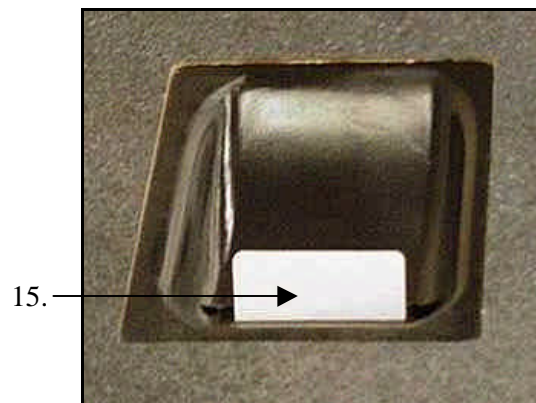

Figure 30: Tag Dispensed Through Feeder Opening
15. The dispenser automatically initializes and the dispenser motor operates until a tag is dispensed through the feeder opening (**Figure 30**).